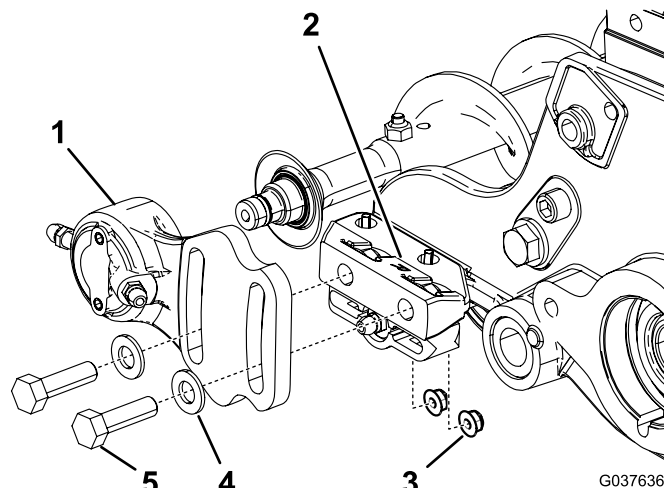

Figure 16
1. If a roller brush is installed on the cutting unit, remove the 2 bolts, washers and nuts securing the non-drive bearing housing to the bearing housing mounting bracket (Figure 16).